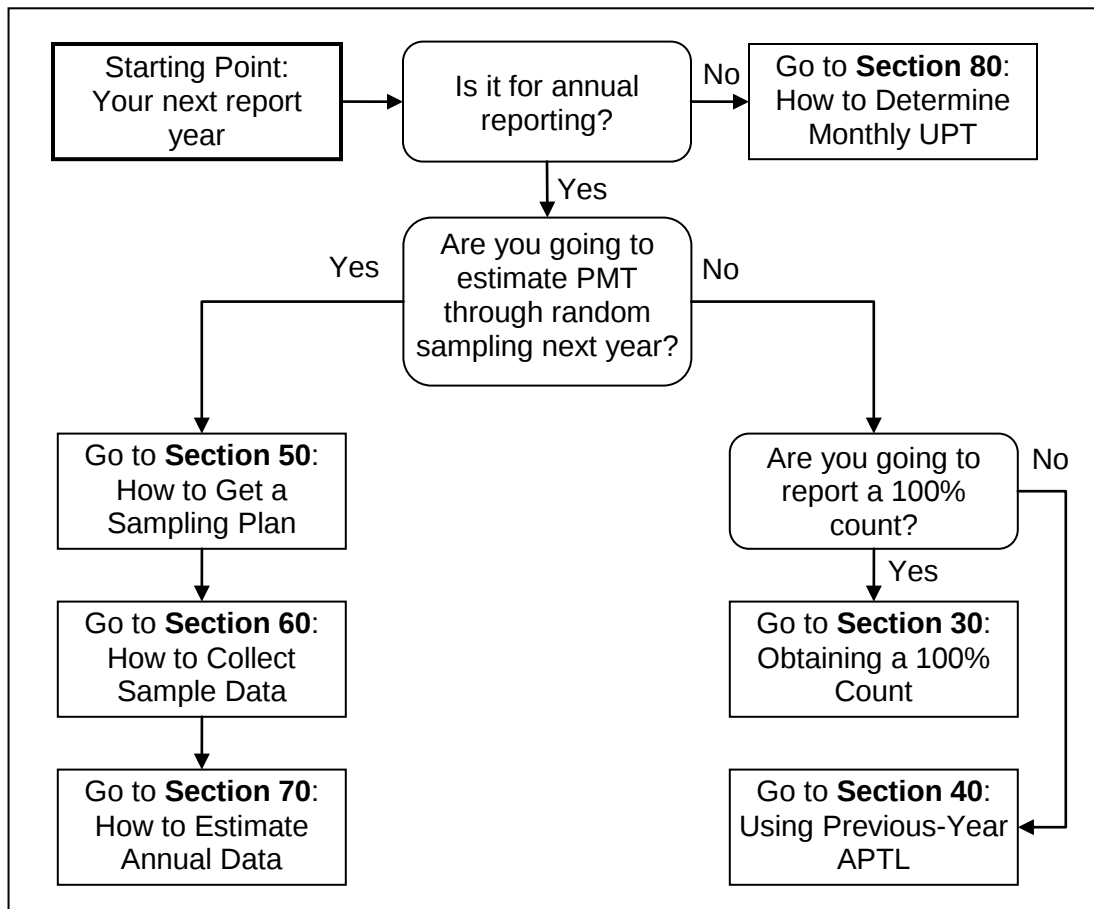

Figure 20.01. A Flow-Chart Direction to Sections
- (a) Figure 20.01 shows the general directions to sections 30-80 in a flow-chart format.